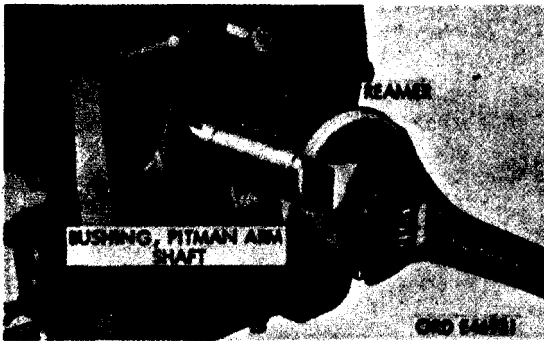

Figure 165. Reaming inner pitman arm shaft bushing
- (3) Ream new inner bushing with reamer 5110-795-0246 (fig. 165), using old bushing as a pilot on opposite end.
- (1) Removal of main drive gear (C, fig. 165). Remove huglock nut (A) and internal teeth lockwasher (B). Using a suitable puller, remove m&drive gear (c) and Woodruff key (K).